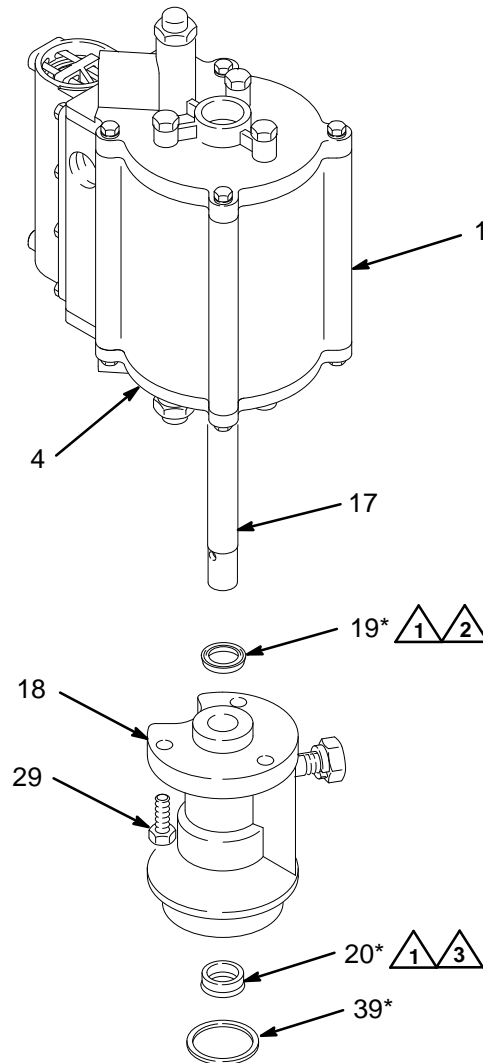

Fig. 10
1. Disconnect the air motor (1) from the displacement pump (100), as explained on page 15.
2. Remove the three screws (29) holding the outlet housing (18) to the bottom cylinder cap (4). Pull the housing off the cap, being careful not to damage the piston rod (17). See Fig. 10.
3. Remove the u-cup packing from the cap (4).
4. Remove the copper gasket (39) and the u-cup packing (20) from the outlet housing (18).
1. Lubricate the u-cup packing (19*) and install it in the bottom cylinder cap (4), with the lips facing up toward the air motor (1). See Fig. 10.
2. Grease and install the u-cup packing (20*) and the copper gasket (39*) in the outlet housing (18). The lips of the u-cup must be facing down, toward the pump.
3. Install the housing (18) on the cap (4).
4. Reconnect the air motor (1) to the displacement pump (100), as explained on page 15.
-  2 Lips face up, toward air motor (1).